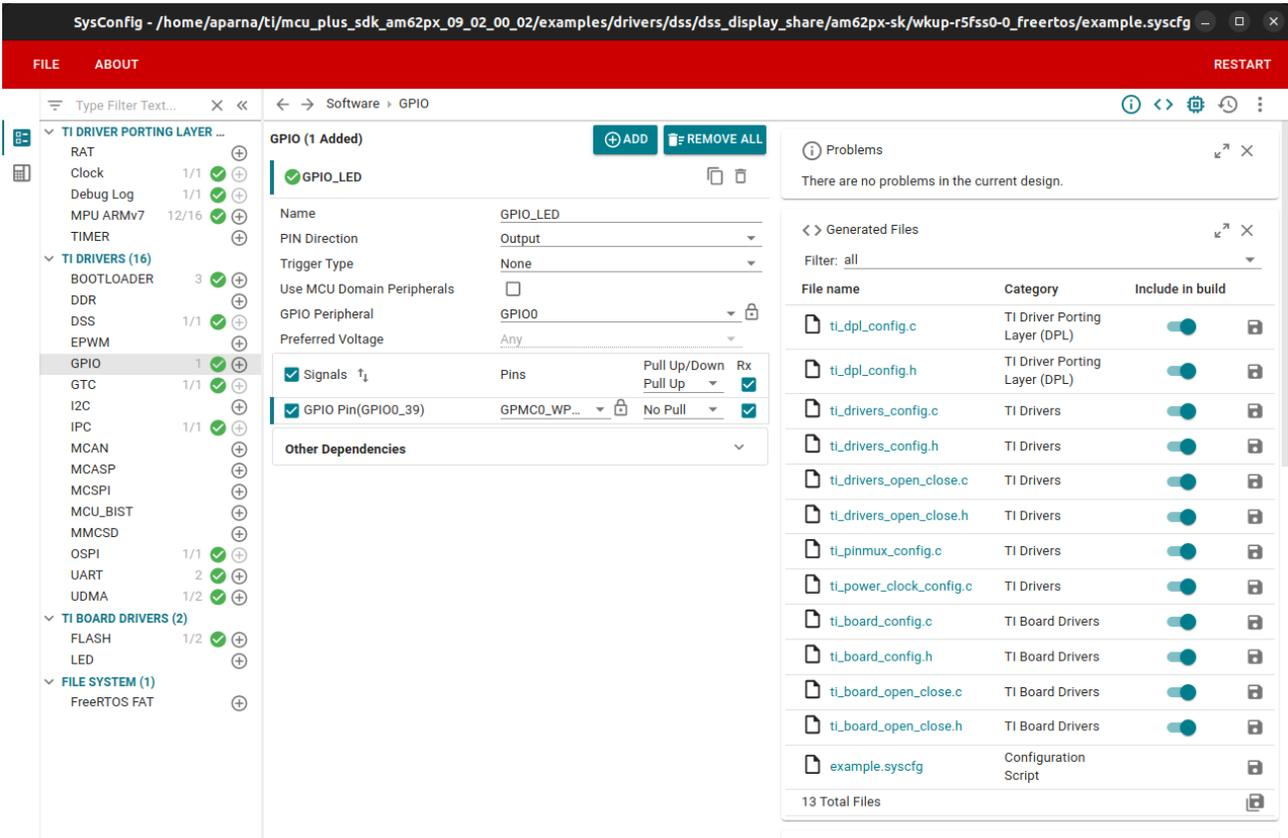

Figure 5-5. SysConfig Settings
- GPIO0_39 on the user expansion connector-pin 18, is used for time measurements. Figure 5-5 shows the options in SysConfig to enable this pin: